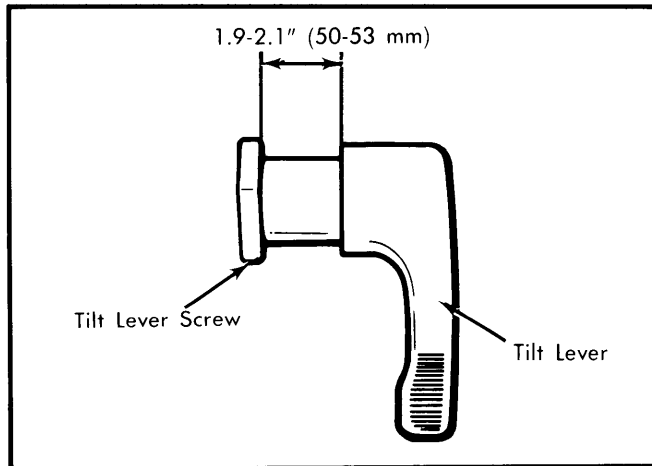

Fig. 4 Setting Distance Between Tilt Lever Screw and Tilt Lever
7) Position spacer and stopper on steering shaft and insert snap ring. Insert tilt lever screw into tilt lever. Turn tilt lever screw until there is a distance of 1.9-2.1" (50-53 mm) between tilt lever and tilt screw. See Fig. 4.